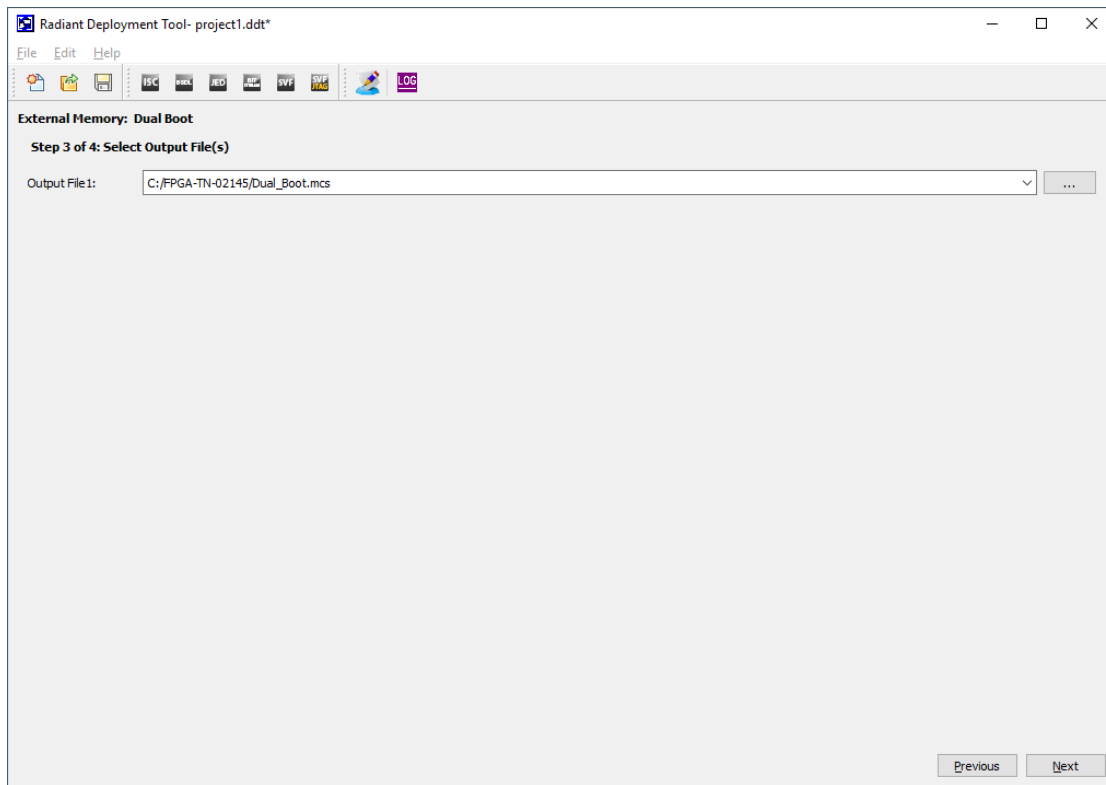

Figure 6.4. Select Output File Window
Step 3 of 4: Select Output File(s) window (Figure 6.4)